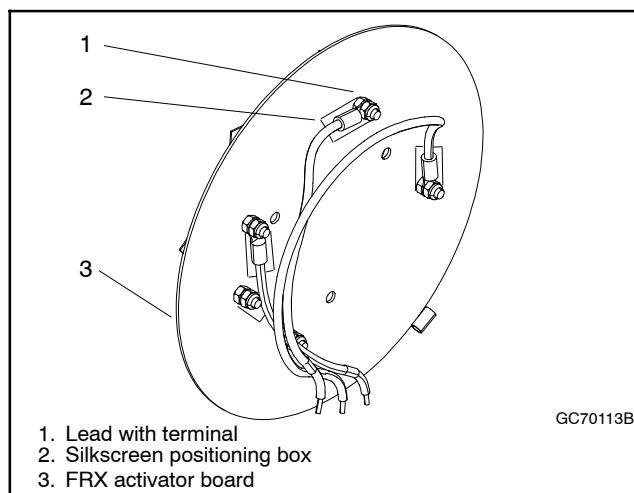

Figure 11-5 FRX Activator Board Silkscreen Boxes
8. Access the back of the FRX activator and remove the exciter armature leads (AC1, AC2, and AC3) by removing three elastic stop nuts. Note the lead terminals and their positioning on the FRX activator board silkscreen boxes for assembly later. See Figure 11-5.